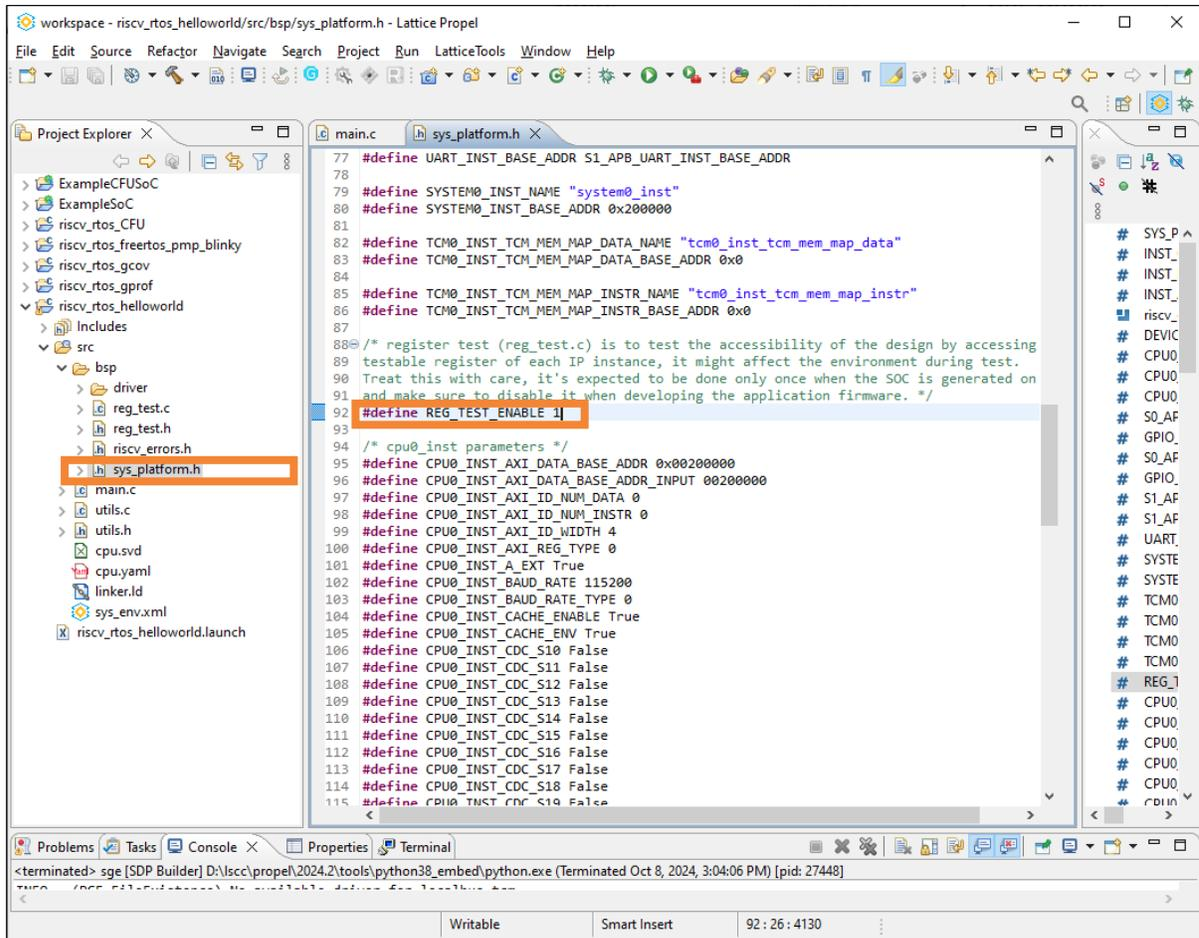

Figure F.4. Enable Test Code
2. Set define REG_TEST_ENABLE to 1 in the file `sys_platform.h` (Figure F.4).